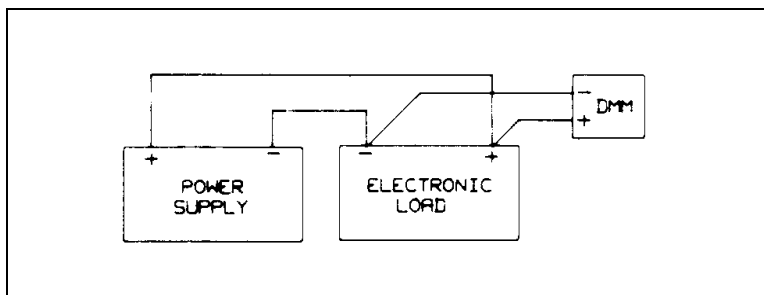

Figure 2-2. Test Setup B
a. Connect the Electronic Load, power supply (Agilent 6035A or equivalent), and DMM as shown in Figure 2-2. Take care in making connections so that contact resistance voltage drop will not affect the readings.